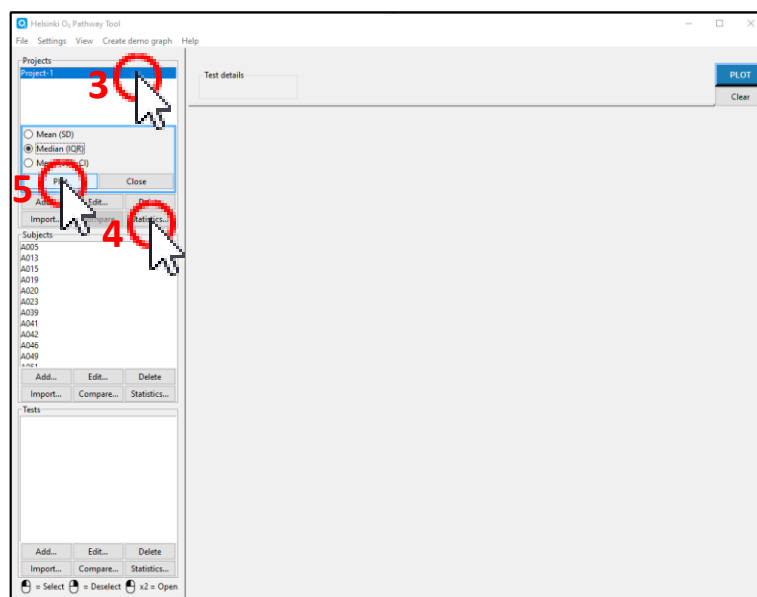

Figure 44
3. Choose a project by left clicking on it in the side panel's project module (figure 44).
4. Click the “Statistics...” button (figure 44).
5. Select the statistical method to be used and click the “Plot” button (figure 44).